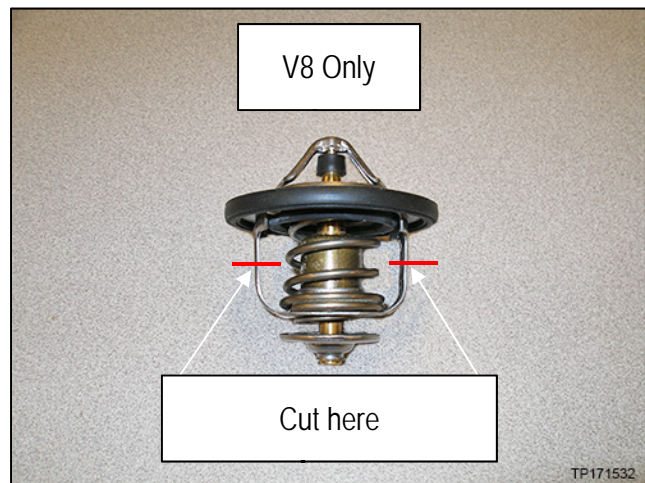

Figure 1
3. Cut / modify the thermostat housing at the locations shown in Figure 1.